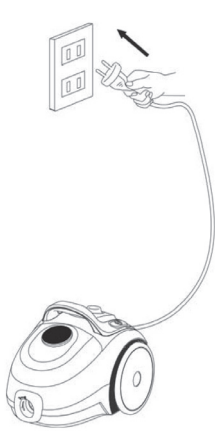

Fig 7
2. Pull out the power cord to the required length (Fig 7).